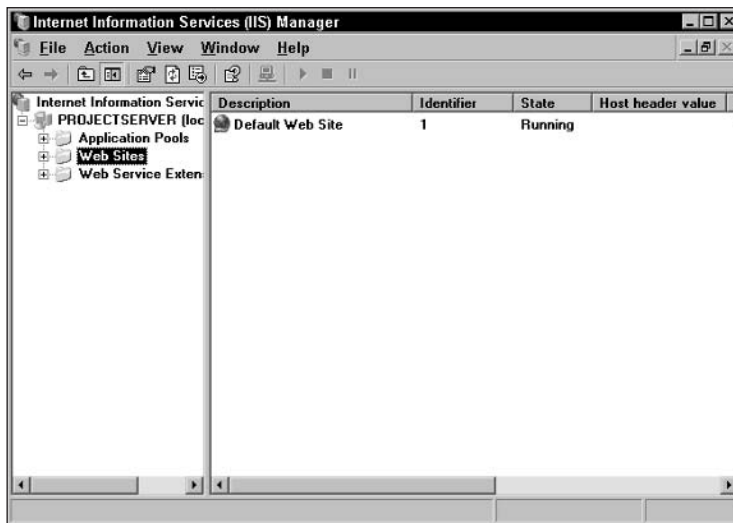

Figure 18-6: Use this window to check the mode in which IIS is running.
2. Click Internet Information Services (IIS) Manager to display the Internet Information Services (IIS) Manager window, as shown in Figure 18-6.